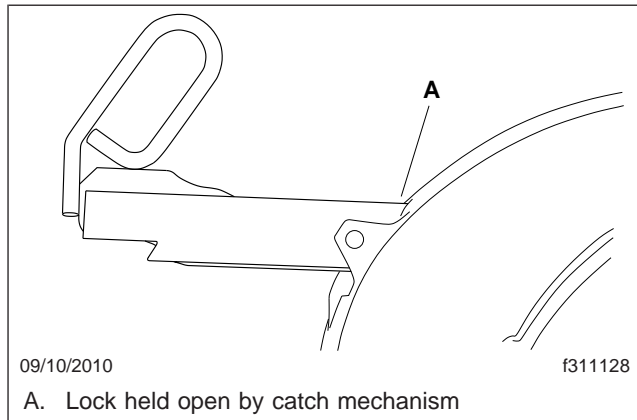

Fig. 10.7, Jost Release Handle Unlocked
2. Open the kingpin locks. See **Fig. 10.7**.